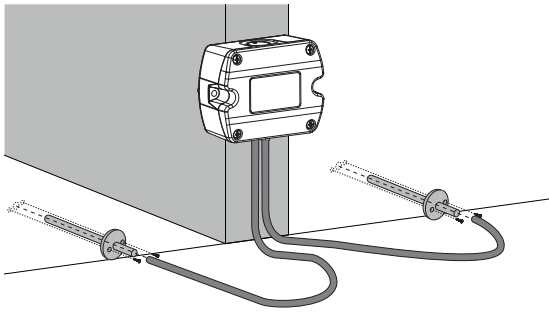
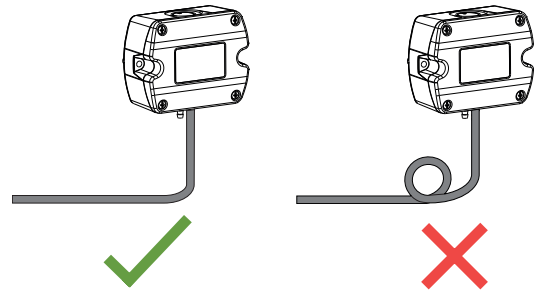

Fig. 6 Pressure connection
Fig. 7 Pressure hose route
3. Connect the pressure hose (included in the scope of supply) first to the EE600 and then to the duct. Route the pressure hose for avoiding sharp bends which might lead to the hose obstruction (Fig. 6 and Fig. 7).